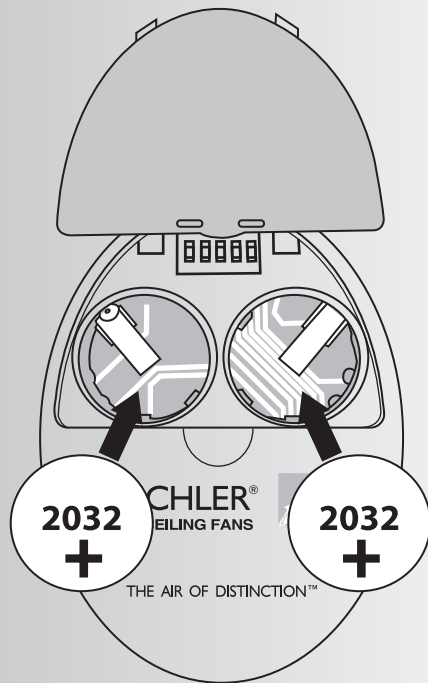

Fig. 17
Open the back of the Transmitter (figure 17)
2. Insert both batteries and make sure they are seated correctly in each recess with the Positive + sign facing up. Replace the battery cover. (Figure 17)